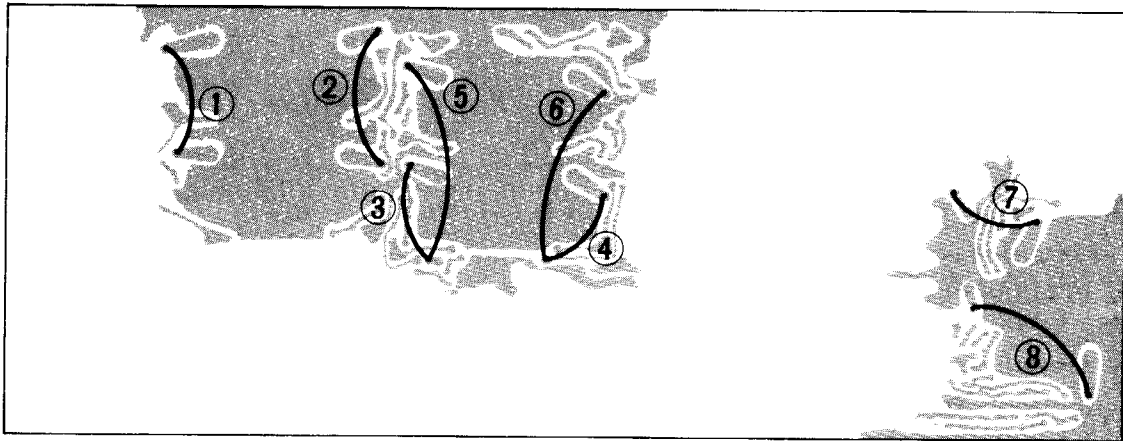

Figure 4
5. Now referring to Table 1 and to Figure 4, locate and remove the jumper wire associated with each filter location into which a new filter was just installed. These jumpers are on the solder side of the board.